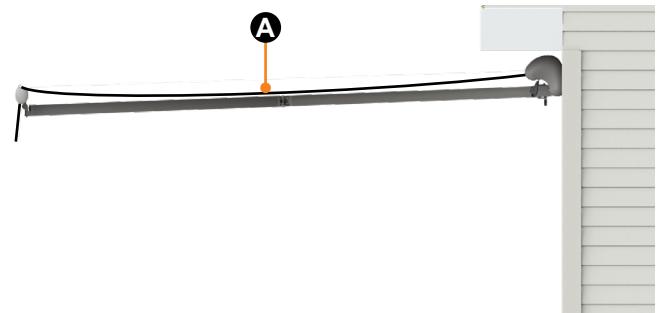
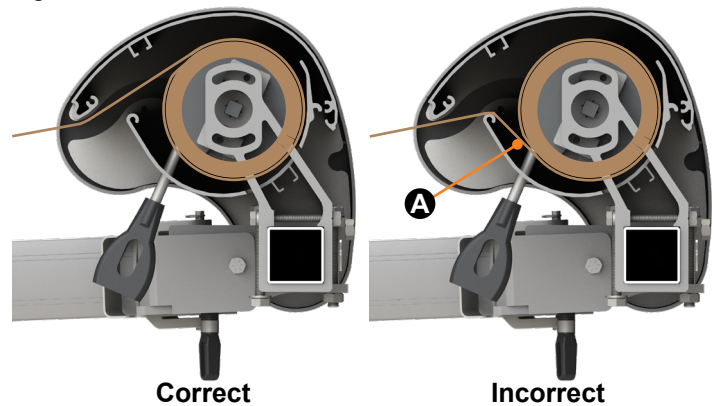

Fig.77
Fig.78
**NOTE:** Always monitor the awning while it is in motion. If at any point the fabric becomes saggy and loops under the roll tube as opposed to on top of it, immediately stop the awning by pressing the "Stop" button and reverse the motion of the awning until the fabric rolls back up on top of the roll tube (Fig. 77)(Fig. 78).